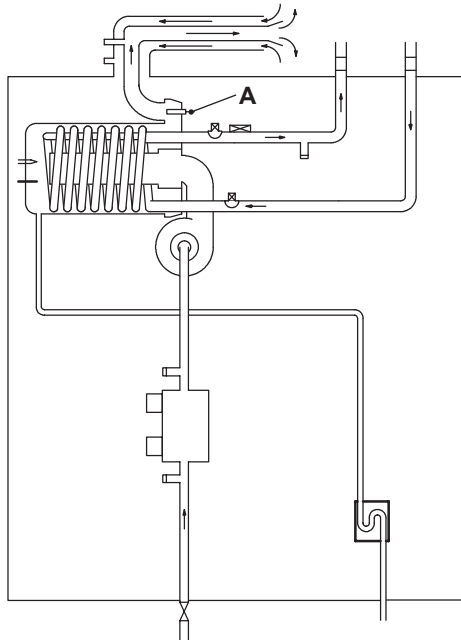
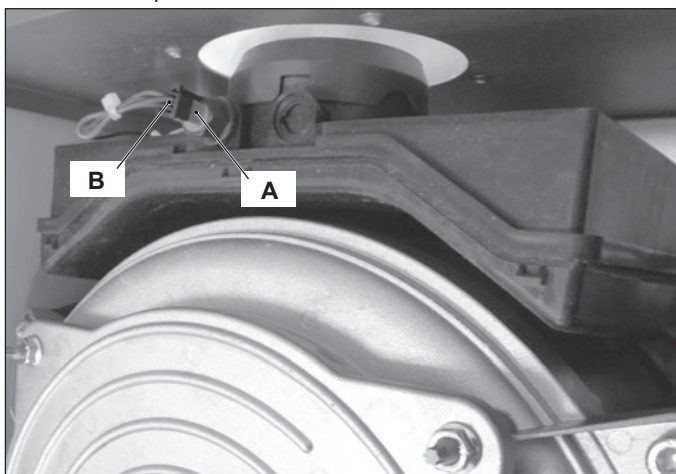

Figure 13.1
Figure 13.2
The Flue temperature probe NTC and Safety thermal fuse "A" in Figure 13.1 and Figure 13.2 senses the temperature of the combustion products that flow through the condensing heat exchanger.
A Flue temperature probe NTC and Safety thermal fuse "A" in Figure 13.1 and Figure 13.2 is also connected in series with the Flue temperature probe NTC and acts as a safety device in extreme case of incorrect operation of the Flue temperature control system.
- 2 Disconnect the connector "B" from the Flue temperature probe NTC and Safety thermal fuse by pressing the plastic hook placed on the side of the connector (Figure 13.2).
- 3 Unscrew and remove the Flue temperature probe NTC and Safety thermal fuse "A" (Figure 13.2) from the condensing heat exchanger.